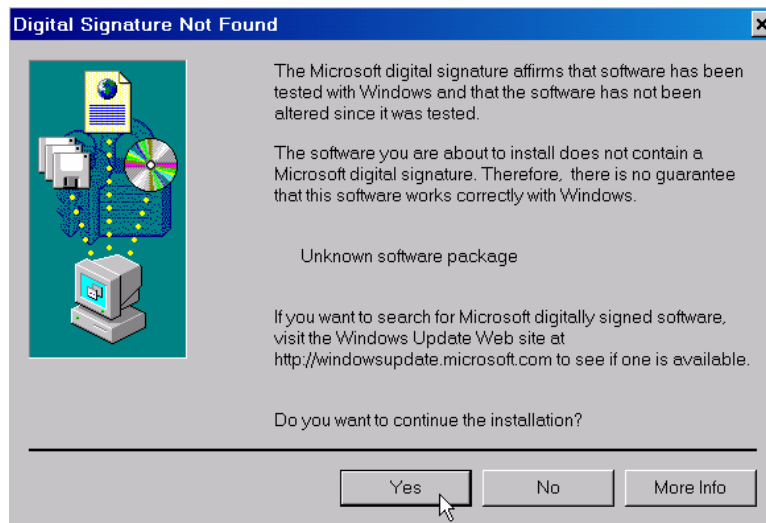

Figure 23. Digital Signature Not Found Dialog Box
15. If the computer has been configured to check digital signatures, a *Digital Signature Not Found* dialog box will be displayed as in Figure 23. In response to the query "Do you want to continue the installation?" click on the **Yes** button.